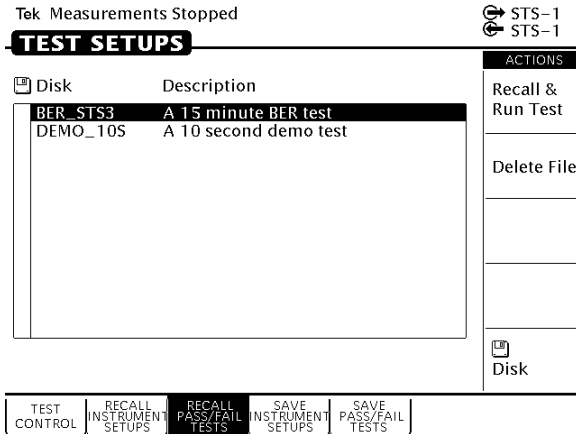

Figure 3–17: Selecting a Pass/Fail Test for Deleting
- If necessary, select **Disk** from the list of actions to display the names of the files on disk (see Figure 3–17).